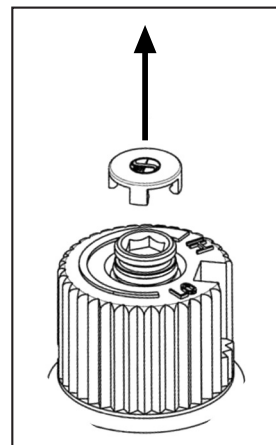

Figure 11: Removing valve cap.
- a) Remove the black protection cap from the HI/LO knob by hand shown in Figure 11.
- g) Re-attach the black protection cap that was removed in step a (Figure 11).